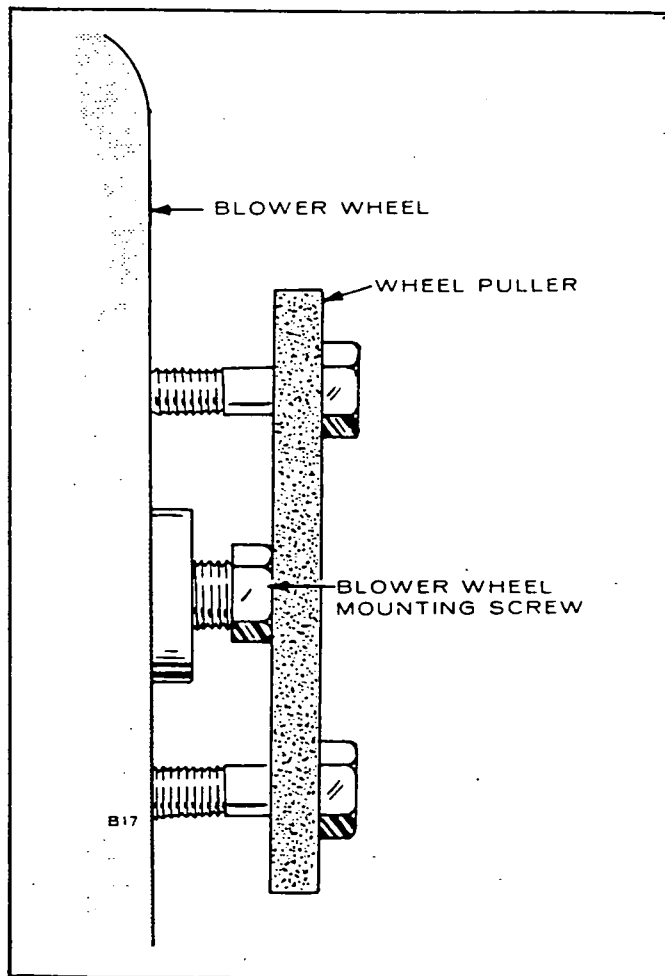

FIGURE 29. BLOWER WHEEL PULLER
2. Install a puller bar (Part No. 420A100) on the flywheel as shown in Figure 29.